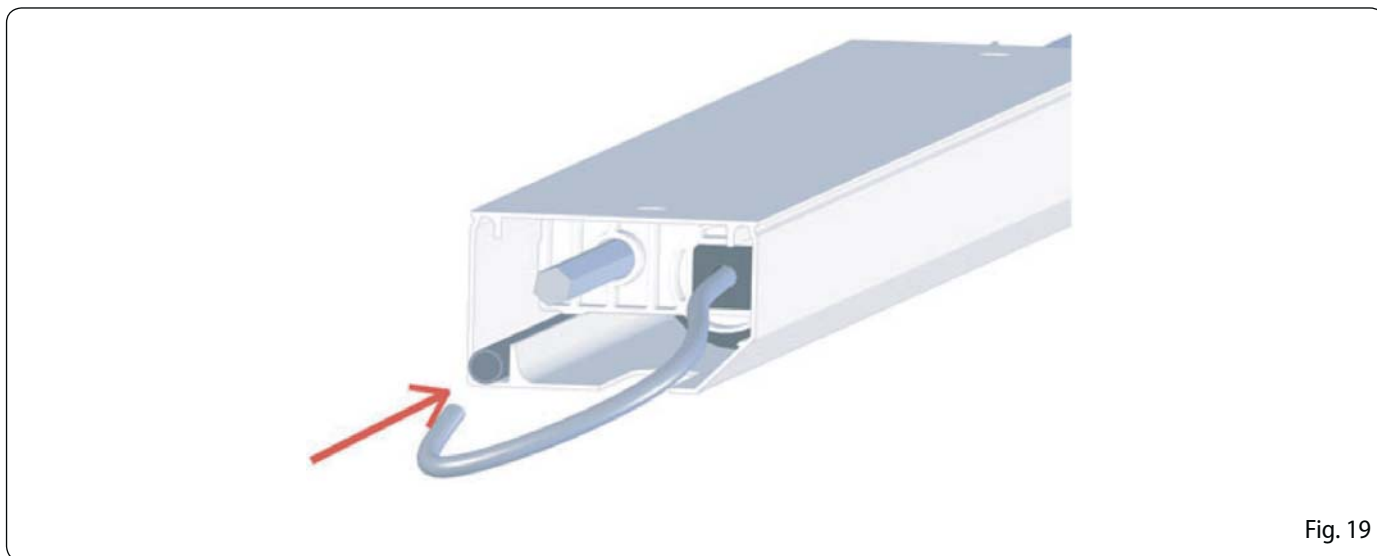

Fig. 19
- pass the cable through the specific PVC tube (see image Fig. 19).